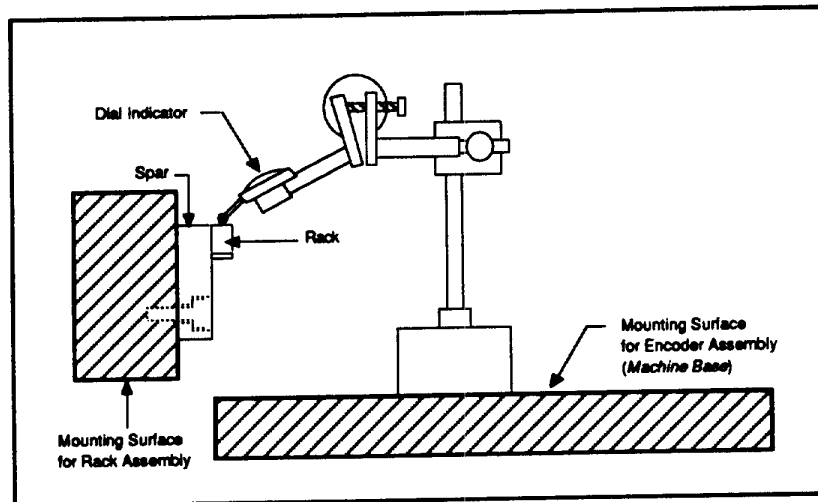

Figure 2-9. Dial Indicator Location
- ② Using a dial indicator as shown in Figure 2-9, adjust the rack assembly (starting from one end) so that the total indicated reading (TIR) on the rack (not the spar) is no more than 0.004 inches TIR (± 0.002 inches). Read the indicator with reference to the mounting location of the encoder assembly. Once the measurement is within the above value, tighten the screw. Repeat this process for the remaining screw locations. **Never loosen the bolts that secure the rack to the spar, and avoid direct contact with the rack.**